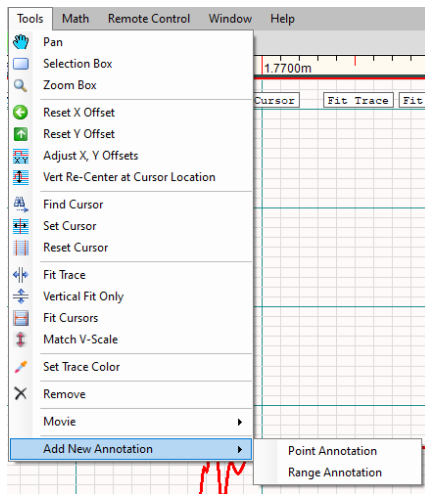

Figure 5.28 The annotation drop-down menu.
2. Select either *Point Annotation* or *Range Annotation* from the drop-down menu. See Figure 5.28.